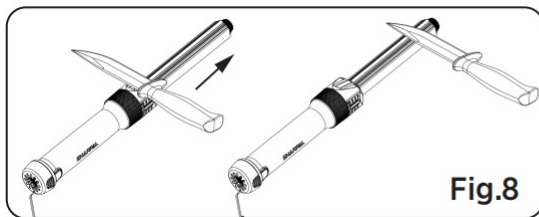

Fig.8
2. Place the heel of the knife blade against the angle guide. **PUSH** the blade **AWAY** from you like you are trying to carve a thin slice off the top of the sharpening rod. Push the knife blade across the sharpening rod as you push to sharpen the cutting edge all the way to the tip of the blade (See Fig. 8).